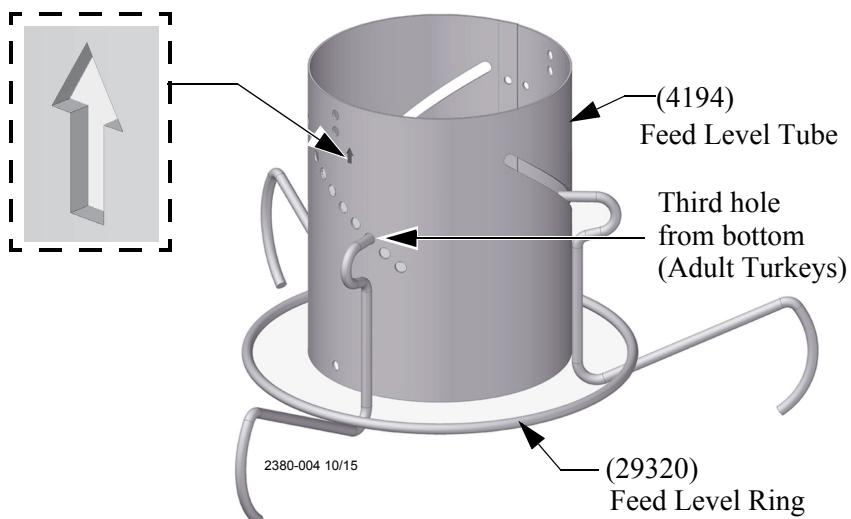

Figure 25.Feed Level Tube and Ring
4. Attach the Feed Level Tube (4194) to the Feed Level Ring (29320) as shown in (See Figure 25.)